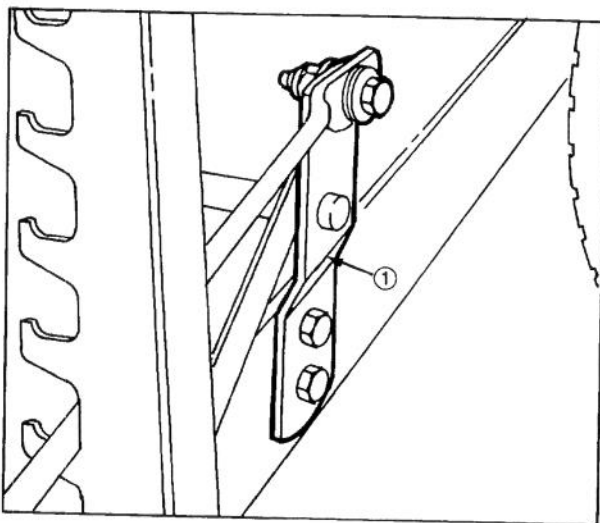

Figure 32
4. If blade tip height is not within 1/8 inch (3 mm), level cutting unit by loosening height-of-cut support bracket capscrews and raising or lowering the bracket (Fig. 32).